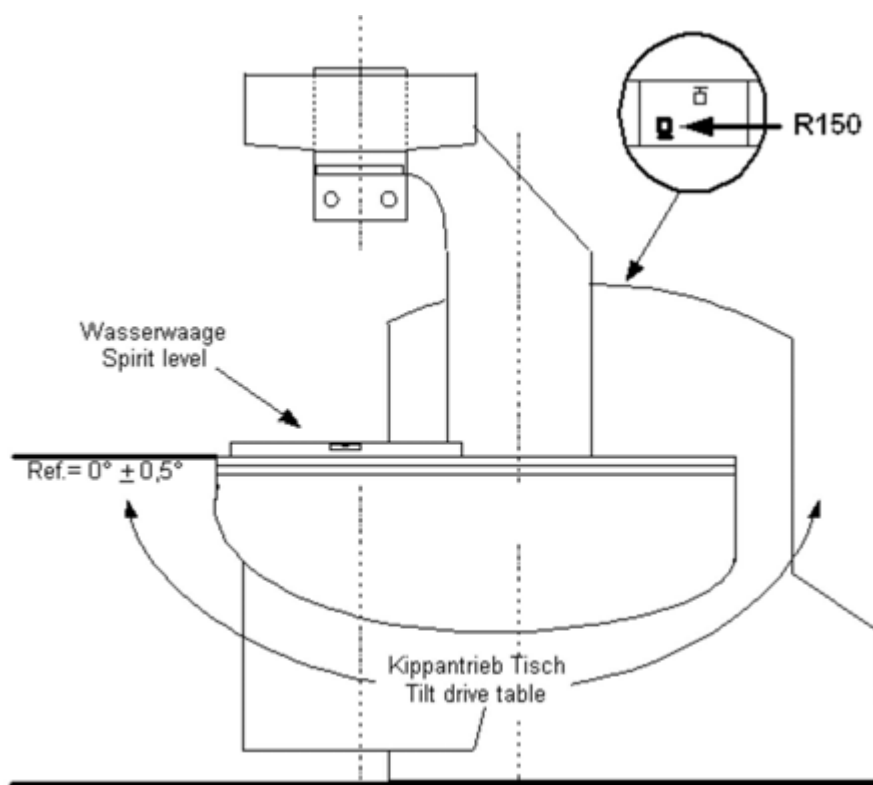

Fig. 34: Adjustment - table tilt
- Using the service keys, move the tilt drive into the reference position (Fig. 34 / p. 54).
Access: Through lifting base (see arrows (Fig. 34 / p. 54)).